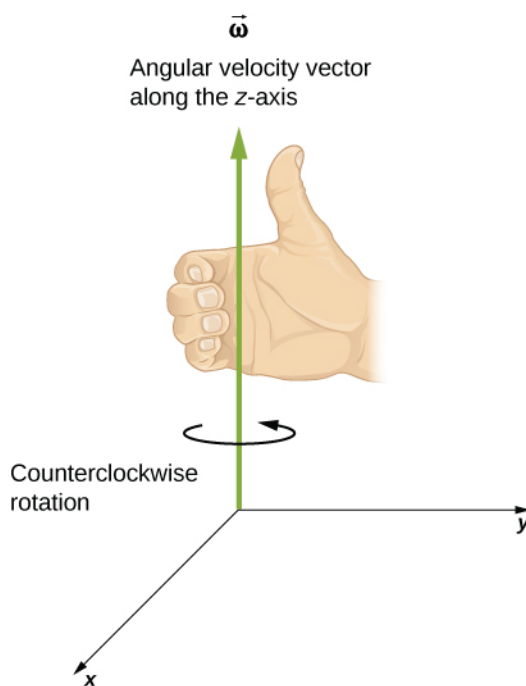

Figure 10.5 For counterclockwise rotation in the coordinate system shown, the angular velocity points in the positive z-direction by the right-hand-rule.
Up until now, we have discussed the magnitude of the angular velocity $\omega = d\theta/dt$, which is a scalar quantity—the change in angular position with respect to time. The vector $\vec{\omega}$ is the vector associated with the angular velocity and points along the axis of rotation. This is useful because when a rigid body is rotating, we want to know both the axis of rotation and the direction that the body is rotating about the axis, clockwise or counterclockwise. The angular velocity $\vec{\omega}$ gives us this information. The angular velocity $\vec{\omega}$ has a direction determined by what is called the right-hand rule. The right-hand rule is such that if the fingers of your right hand wrap counterclockwise from the x -axis (the direction in which θ increases) toward the y -axis, your thumb points in the direction of the positive z -axis (**Figure 10.5**). An angular velocity $\vec{\omega}$ that points along the positive z -axis therefore corresponds to a counterclockwise rotation, whereas an angular velocity $\vec{\omega}$ that points along the negative z -axis corresponds to a clockwise rotation.
In the same way as we defined the vector associated with angular velocity $\vec{\omega}$, we can define $\vec{\alpha}$, the vector associated with angular acceleration (Figure 10.7). If the angular velocity is along the positive z-axis, as in Figure 10.5, and $\frac{d\omega}{dt}$ is positive, then the angular acceleration $\vec{\alpha}$ is positive and points along the +z- axis. Similarly, if the angular velocity $\vec{\omega}$ is along the positive z-axis and $\frac{d\omega}{dt}$ is negative, then the angular acceleration is negative and points along the -z- axis.
- We are given the rotational sense of the turbine, which is counterclockwise in the plane of the page. Using the right hand rule (**Figure 10.5**), we can establish the directions of the angular velocity and acceleration vectors.